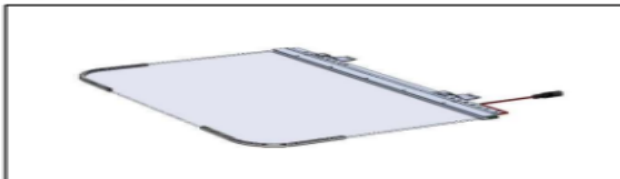

Figure 3
3. The Graphic Application Trim should look as follows (See Figure 3).